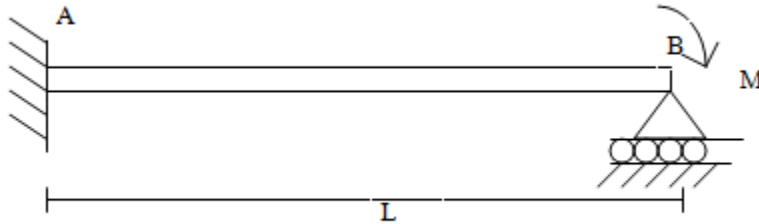

Figure 7
5. Determine the reactions and draw the shear and bending moment diagrams for the beam shown in figure 7 by the method of consistent deformations (20mks)